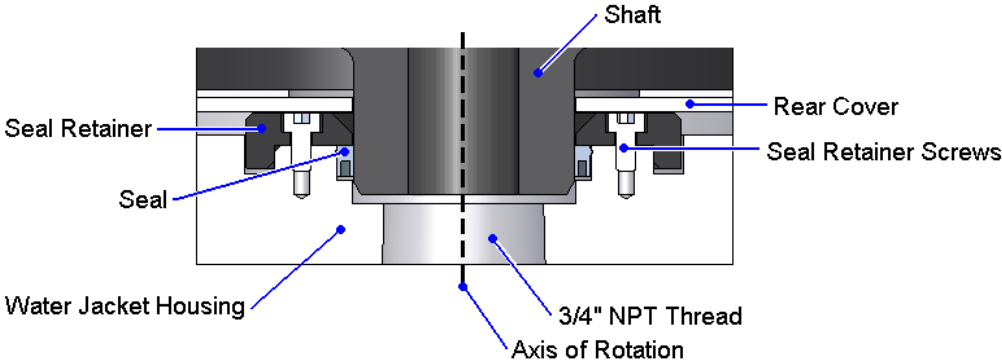

Figure 4-10: Cross-section View of Water Jacket Seal Showing Seal Orientation
6. Lubricate the new seal with o-ring lubricant and press it into its housing. Be sure to note the seal orientation in Figure 4-10.